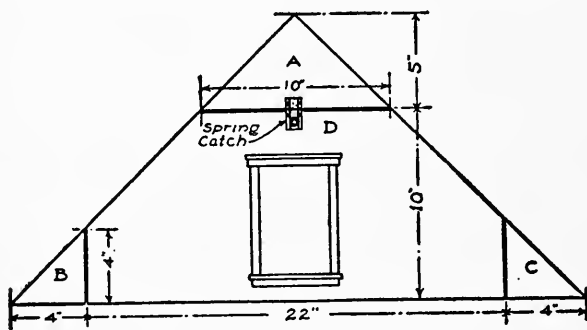

FIG. 109.—The Front Gable-end.
**The Gable-ends.** — The front gable-end consists of four pieces (*A*, *B*, *C*, and *D*, in Fig. 109), the dimensions for